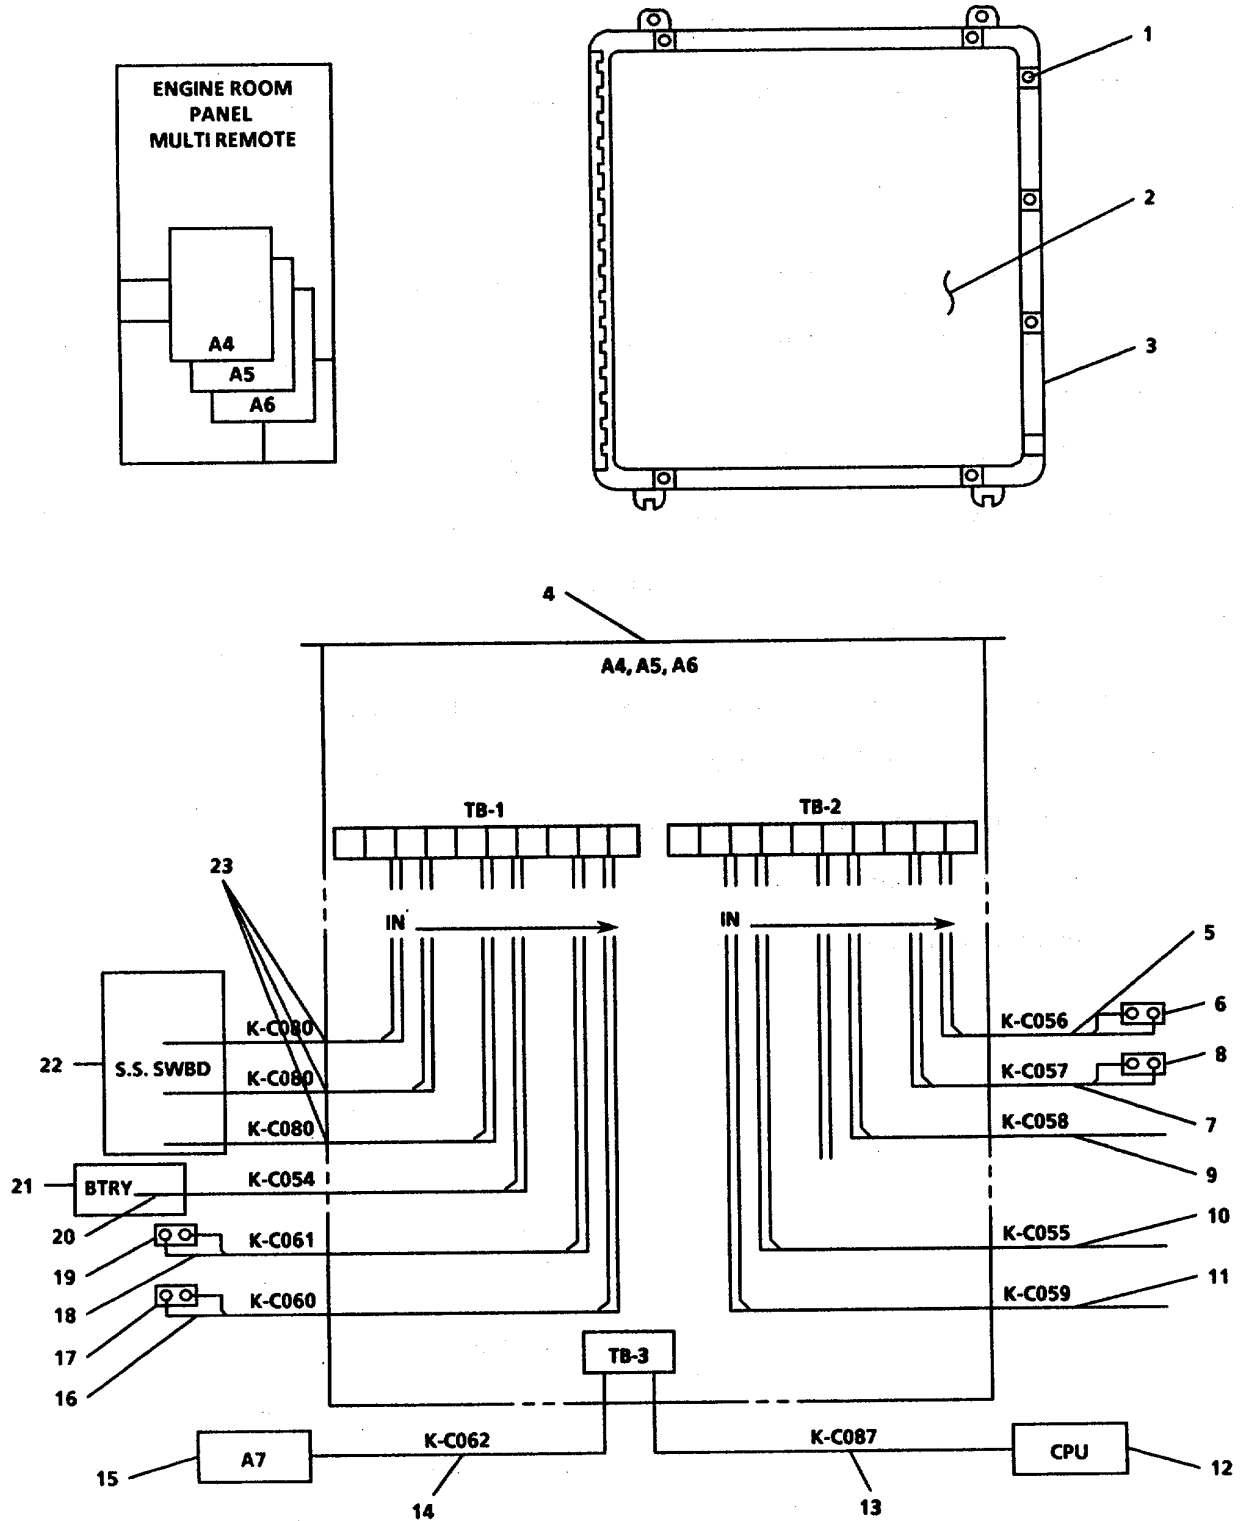

FIGURE 3-125. Engine Room Multi-Remote Module.
- a. Remove tag and connect electrical power cable (4).
- b. Install printed circuit boards (6).
- a. Install central processing unit (3).
- c. Close cover (2) on enclosure (3) and tighten captive screws (1).
**3-137. Replace/Repair Engine Room Multi-Remote Module. (Figure 3-125)**